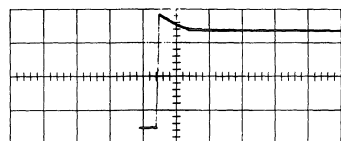

Fig. 7-4 Effect of "cathode interface" in V.A. 0.5 μ sec/cm.
- 7.1.3.3 Distributed Amplifier Tube Defects: If tube replacement in 7.1.3.2 does not eliminate changes in slope (Fig. 7-4 or 7-5) with line-voltage change, distributed amplifier tubes (6CB6's or 6DK6's) will require replacement. (Do not mix tube brands.)